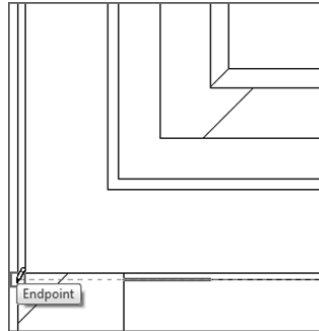

FIGURE 2.49: Adding to the mess in the corner
3. With the Chain button off and Location Line set to Finish Face: Exterior, to start the wall, pick the intersection where the CMU wall abuts the inside finish face of the exterior wall (see Figure 2.49).